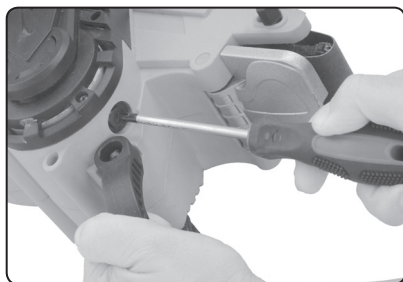
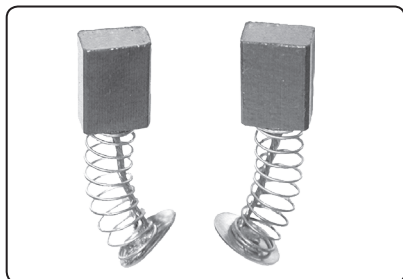

Fig. 8
Fig. 9
- ➔ Screw out the carbon brush covers on both sides of the power tool (fig. 8) and remove the carbon brushes from the brush sleeves (fig. 9). In the event of damage/wear, replace both with original brushes. Brushes must always be replaced both at the same time for original brushes supplied by the manufacturer.